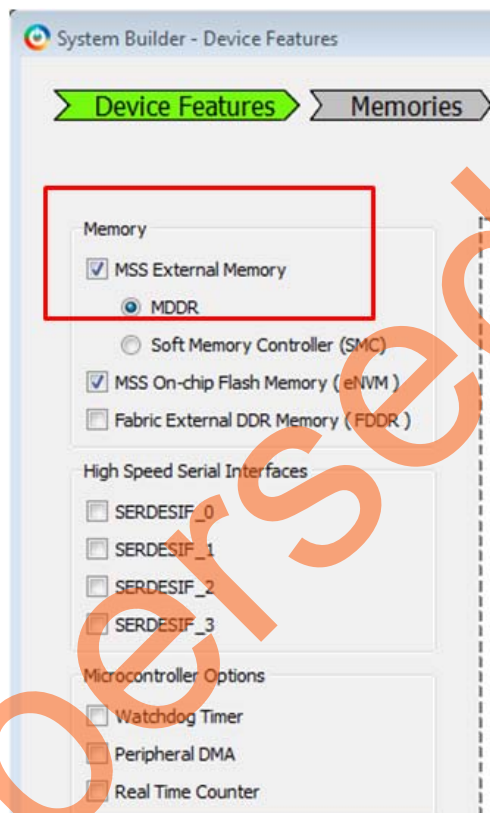

Figure 8 • System Builder - Device Features Tab
1. Go to the **System Builder - Device Features** tab and select the **MDDR** check box. Leave the rest of the check boxes unchecked, as shown in Figure 8.